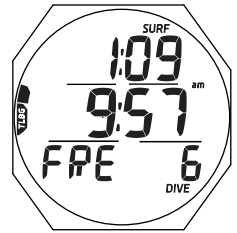

Fig. 102 - FREE SURF MAIN (after dive # 6)
**FREE SURF MAIN**, information includes (Fig. 102):